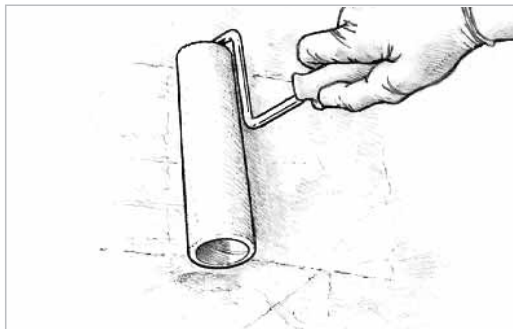

Figure 9-23 Apply the epoxy in thin even coats using a thin foam roller.
4. Roll lightly and randomly over an area approximately 2' × 2' (60cm × 60cm) to transfer the epoxy evenly over the area (Figure 9-23).